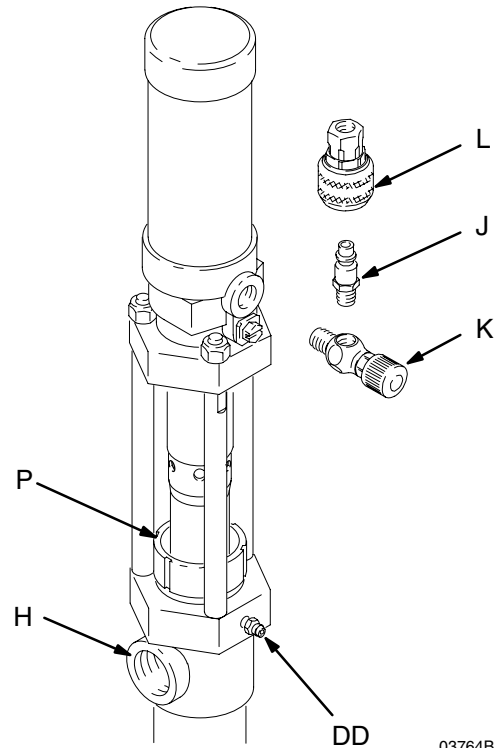

Fig. 5
Fill the wet-cup (P) 1/2 full of Graco Throat Seal Liquid (TSL) or compatible solvent and keep it 1/2 full to keep fluid from drying on the displacement rod and damaging pump throat packings. See Fig. 5.
Lubricate the throat packings frequently when you are pumping a non-lubricating fluid, or are shutting down for more than a few days. Some pumps have a grease fitting (DD) for this purpose. See Fig. 5.
Periodically, check the tightness of the packing nut (P). Relieve the pressure, then tighten enough to prevent leakage; no tighter. See Fig. 5. If the leakage can not be stopped, change the packings to prevent exposure to the fluid being pumped.